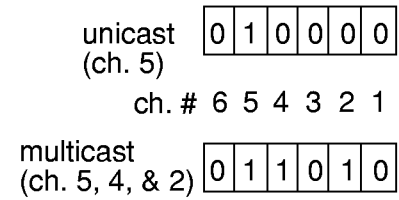

Figure 5. TX Using Inband Multiport Indicator
- Uses inband multiport indicator: TINBAND=001, 011 or 100 selects this method. In this method, the ports receiving the cell to be transmitted onto the line are indicated in the multiport indicator, which is a 6-bit port map located in the cell header, as shown in Figure 5. The presence of a 1 in the 6-bit port map indicates that the corresponding port is selected. The 6-bit port map is configured in descending order, with the MSB mapped to port 6. The ports selected for multicasting are indicated only by bits in the 6-bit port map.